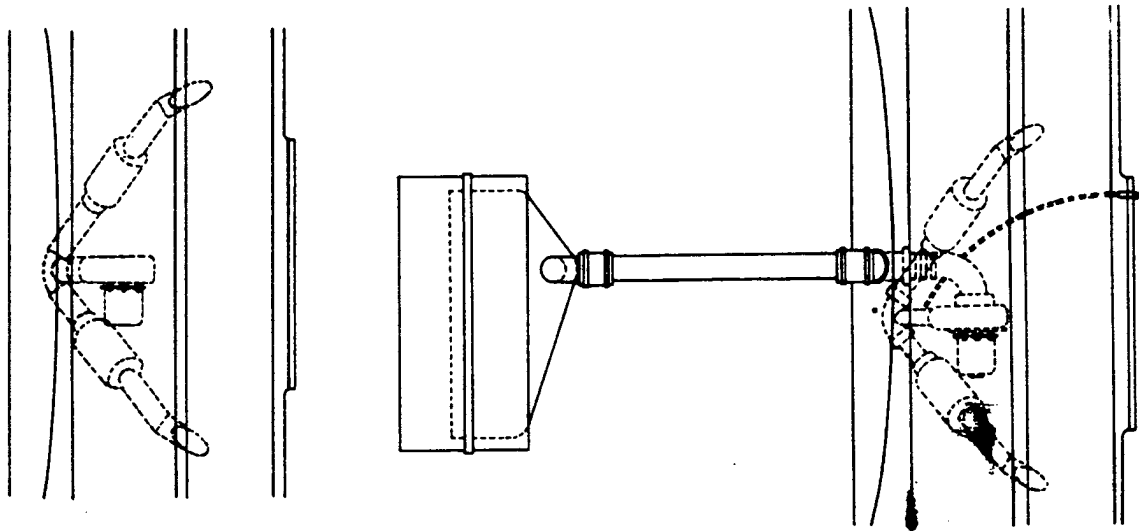

FIG. 1. ORIGINAL SYSTEM. FIG. 2. RADIATOR HEATED SYSTEM (INTERMEDIATE TYPE).
As a result of further investigation and development this new system is capable of keeping the windscreen clear under much more severe conditions than was possible on earlier cars, and it has been adapted so that it may be fitted in place of either the original electrically heated under scuttle system or the later radiator heated type shown in Figs. 1 & 2.
- A. NOTE: These instructions refer ONLY to cars fitted with the original electrically heated under scuttle air intake system (See Fig.1).